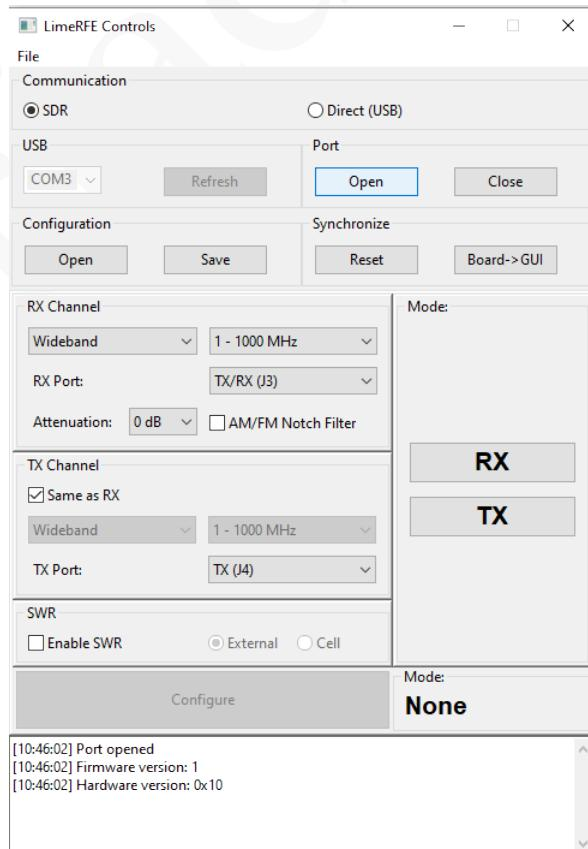

Figure 3: LimeRFE Controls window
- After LimeRFE module is opened, LimeRFE Controls window is displayed (Figure 3).
- After clicking Open Port button a confirmation message is displayed in *Message Display* panel (Figure 3).
In order to open the LimeRFE Control module, in LimeSuite main window choose Modules→LimeRFE. LimeRFE Controls window is shown in Figure 3. It consists of several panels: Communication, Configuration, Synchronize, RX Channel, TX Channel, SWR, Mode, and Message Display panel. Overview of this window will be given in the following.